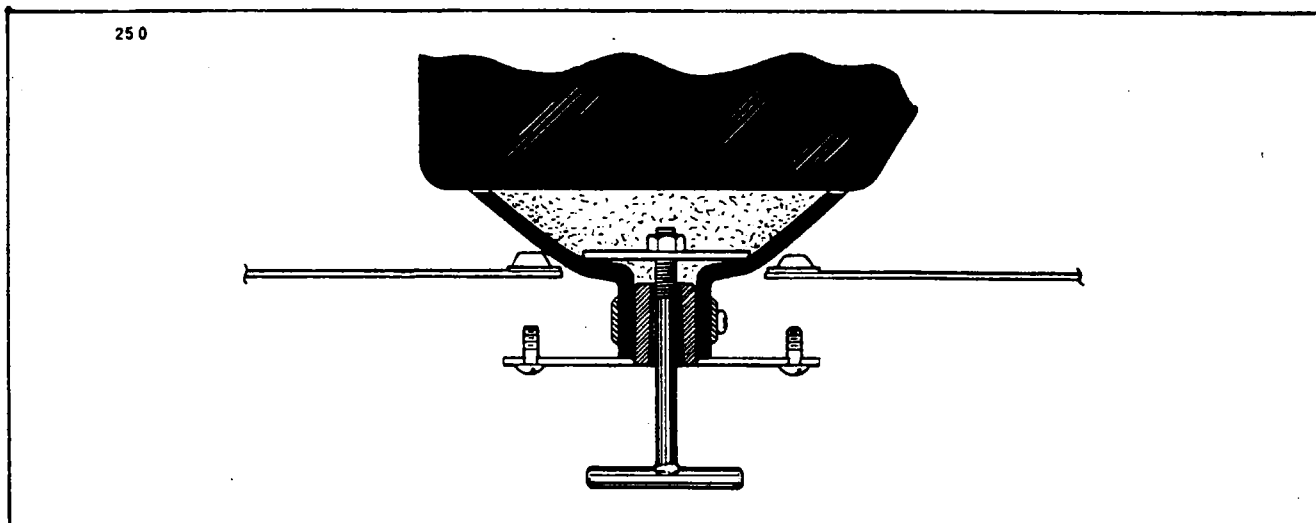

Figure 9-4. Installation of Fuel Valve Drain Plate
- l. Connect the fuel drain valve plate by inserting the threaded end of bolt or rod not under three inches long up through the plate and nipple fitting of the fuel cell. (Refer to Figure 9-4.) Reach through the fuel cell opening and install a two to two and one-half inch diameter washer on the bolt or rod and secure with a nut. Pull the nipple down through the opening in the wing panel enough to clamp the nipple fitting to the plate. Remove the bolt or rod; secure plate to wing panel and install drain valve.